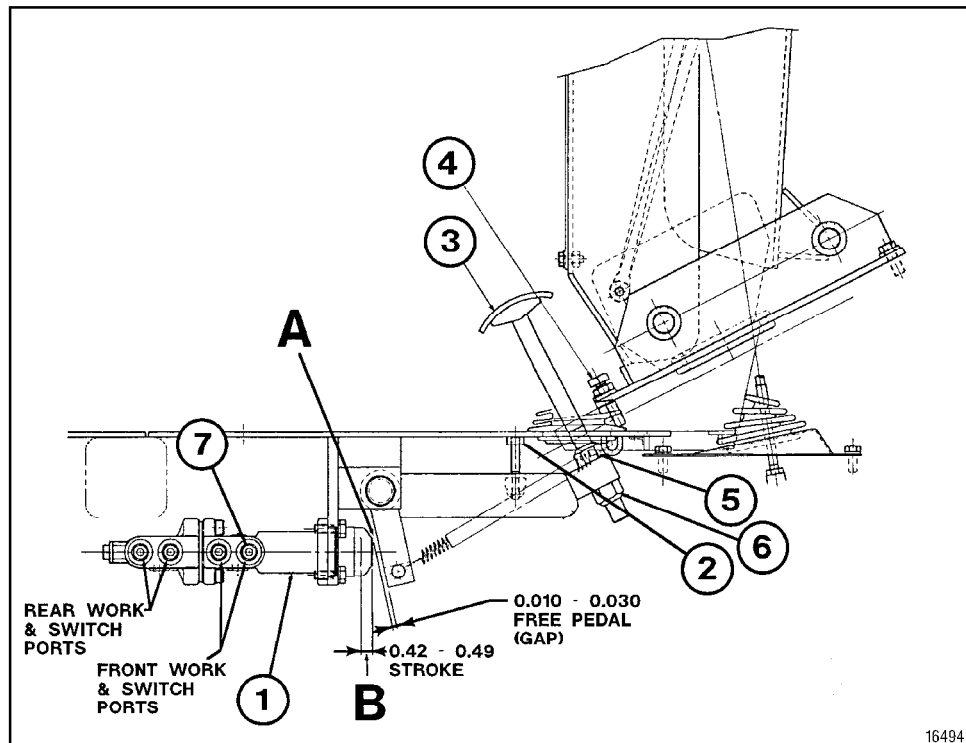

Figure 6 BRAKE PEDAL FREE PEDAL
See references "A" and "B" in Figure 6.
Reference "A" adjustment is to make sure that brake valve (1, Figure 6) is not applied when pedal (3) is released.
With brake pedal released, gap clearance between brake lever and brake valve piston (A, Figure 6) must be 0.010 - 0.030 in. (0.254 - 0.762 mm). To increase gap clearance, screw in bolt (2). To reduce gap, screw out bolt (2). Tighten jam nut on bolt (2).